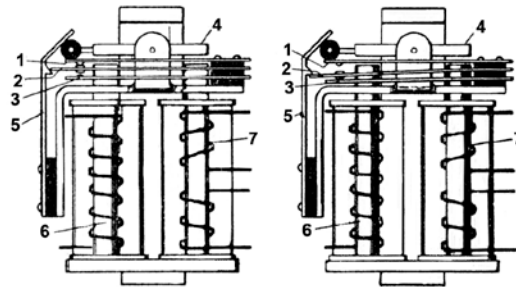

Figure 1-17. Latching relay.
In our example (fig. 1-17), you can see an example of a latching relay. If the coil (6) is energized it will attract the armature (2) and it will make a connection with contact (3). At the same time that the armature moves it will cause the armature to slip under the catch located on a thin piece of metal that acts like a spring (5). Once the armature is captured by the catch on the spring the coil can be de-energized and the contact will remain in its current position. When the control circuit is energized again power will flow to the opposite coil (7). This will attract the lever positioned over the armature (4) causing it to pivot. When it pivots it will push the spring with the catch on it (5) to move out of the way and allow the contact to move back into the original position so that the armature (2) restores contact with the original contact (1).